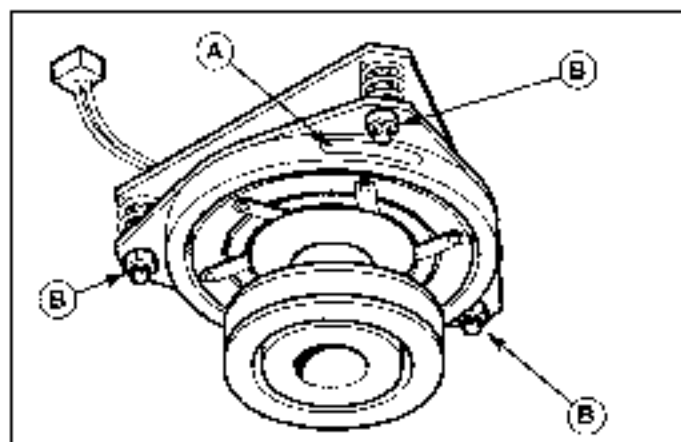

Figure 21. PTO Clutch Adjustment
2. Note the position of the 3 adjustment windows (A, Figure 21) in the side of the brake plate and the nylon adjustment nuts (B).